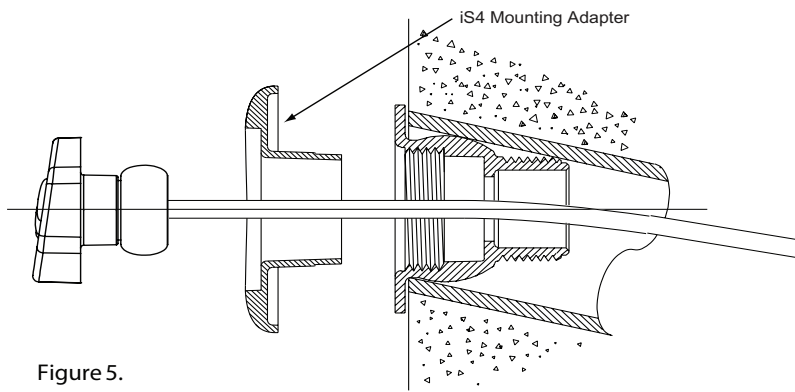

Figure 5.
3. Bond iS4 Mounting Adapter provided over existing Mounting Adapter using silicon. Run spa-side remote cable through conduit to Power/ Load Center. See Figure 5.